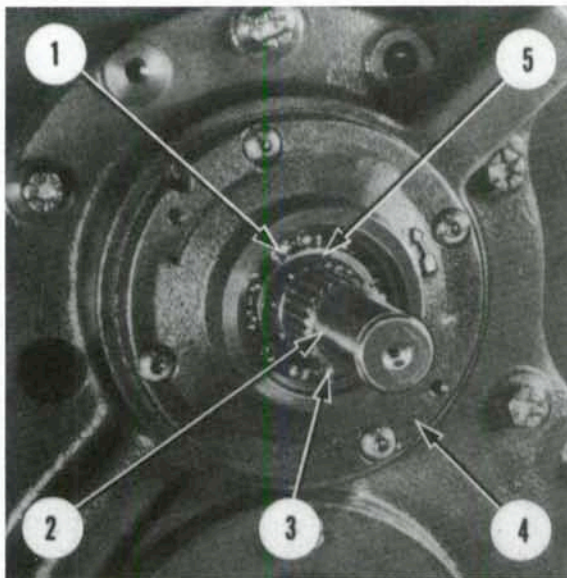

Fig. 191—Low pressure hydraulic pump is mounted on rear of transmission housing.
**142.** The gerotor pump can be removed after splitting tractor between transmission and rear axle center housing as outlined in paragraph 162. Remove retaining cap screws from pump housing, then withdraw pto shaft (2—Fig. 191) and pump (4) as an assembly from rear of transmission housing.